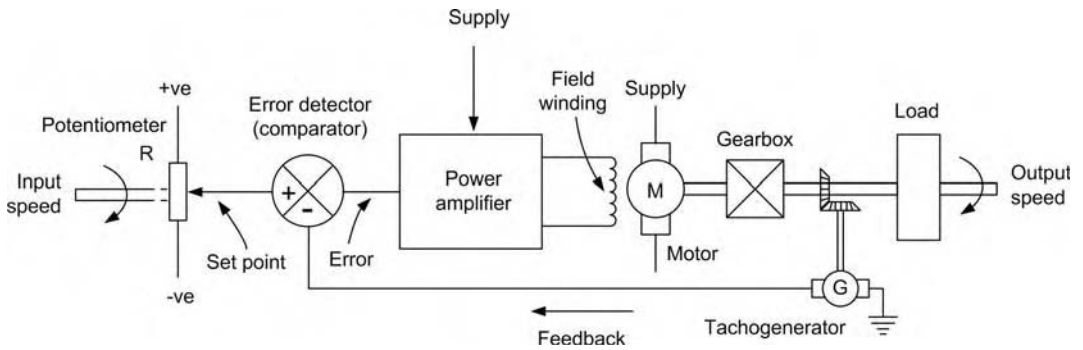

Figure 6.132 A practical closed-loop speed control system.
A practical closed-loop speed control system is shown in Figure 6.132. A power amplifier is used to provide the field current for the DC motor (M). The actual speed of the motor's output shaft is sensed by means of a small DC tachogenerator (G) coupled to the output shaft by means of suitable gearing. The voltage produced by the tachogenerator is compared with that produced at the slider of a potentiometer (R) which is used to set the desired speed.